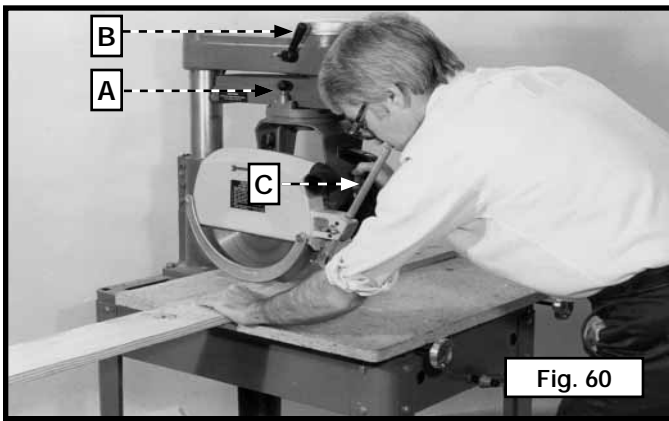

Fig. 60
Before cross-cutting, set the track arm (A) at "0" and tighten the track arm clamp handle (B) Fig. 60. Clamp the fence. Make sure that the saw blade is to the left and behind the fence. Place the workpiece on the table and butt it against the fence. The saw blade should be clear of the fence and table when the machine is turned on. Lower the saw blade until it lightly cuts into the table surface. Position yourself a little to the left of the machine for better visibility. Pull the saw blade across the workpiece and, after the cut is complete, return the saw blade to its starting position. Wait for the blade to stop before removing the cut-off piece.
▲ CAUTION Make sure that your hands are clear of the blade. Hold the workpiece firmly. As an added measure of safety, turn the anti-kickback rod (C) upside down and lock it in place so that the rod just clears the workpiece. In this position, the rod can act as a guard from the exposed teeth of the blade. See Fig. 60 for an illustration of a cross-cutting operation on a radial saw. Be sure to return the cutterhead carriage to the full rear position after each cross-cut operation.